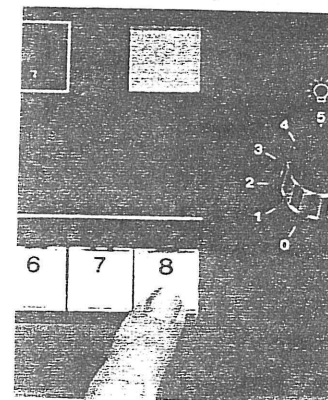

Fig. 51
2. Press switch number 8 of the flash intensity selector switch on the power control unit. (Fig. 51)